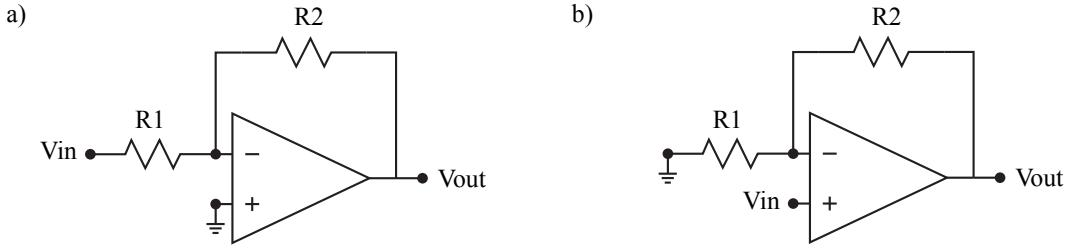

Figure 5.2: Different op amp configurations: inverting amplifier (a) and non-inverting amplifier (b)
An inverting configuration, Figure 5.2 (a), takes its name from the inversion that happens from input to output, giving an output voltage proportional to R_2 and R_1 independent of the actual op amp properties.
Similar to the inverting case, Figure 5.2 (b), this configuration results in an output voltage proportional to R_2 and R_1 but without an inversion and always has a gain of at least 1.
6. Configure an inverting amplifier, Figure 5.2 (a), with a gain of 10 by setting $R_2 = 10\text{k}$ and $R_1 = 1\text{k}$. Set the input voltage to a sine wave with the following parameters, DC offset(V): 0, Amp(V): 1, Freq(Hz): 1k, and the remaining variables blank. Run a transient analysis with a stop time of 1m (.tran 1m). Plot the input and output voltage and record the max and min values of V_{out} , this is a measure of the maximum output swing, table the value. Save an image of the circuit and the plot of the input and output voltage for submission to canvas.
7. Using the same inverting configuration, Figure 5.2 (a), set V_{in} to a 0.1 V DC source and run a transient analysis with a stop time of 1m (.tran 1m). Plot $-V(vout)/V(vin)$, this is a measure of the effective gain, table the result. Save an image of the circuit and the plot of effective gain for submission to canvas.
3. Using the inverting amplifier, Figure 5.2 (a), input a 1k Hz sine wave with a 1 V amplitude from the Wavegen. Determine the maximum output voltage swing.
4. Using the inverting amplifier again, Figure 5.2 (a), input a 0.1 V DC from the Wavegen. Determine the effective gain. Choose an appropriate voltage scale for the input and output voltages.